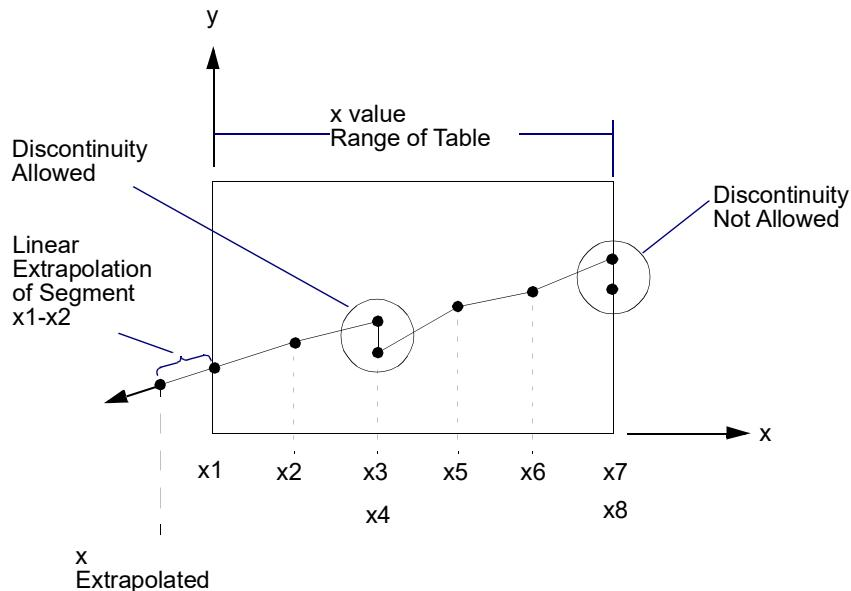

Figure 9-162 Example of Table Extrapolation and Discontinuity
2. Discontinuities may be specified between any two points except the two starting points or two end points. For example, in Figure 9-162 discontinuities are allowed only between points x2 and x7. Also if y is evaluated at a discontinuity, then the average value of y is used. In Figure 9-162, the value of y at x = x3 is y = (y3 + y4)/2 .
where x is input to the table and y is returned. The table look-up is performed using interpolation within the table and linear extrapolation outside the table using the two starting or end points. See Figure 9-162. No warning messages are issued if table data is input incorrectly.